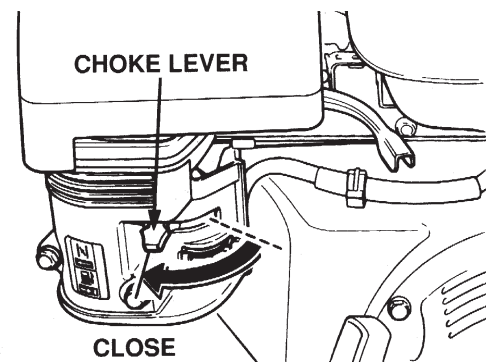

Figure 27. Choke Lever (Closed Position)
8. If operating the SP2 CE in **cold weather conditions**, place the **Choke Lever** (Figure 27) in the **CLOSED** position.